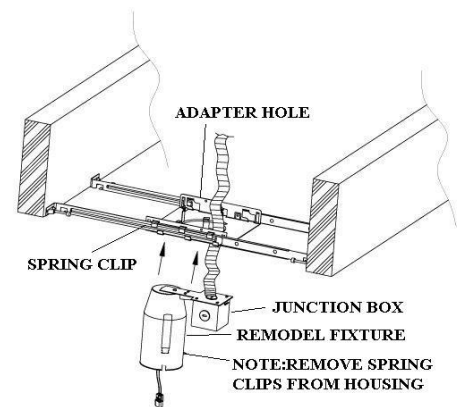

Figure 6
4. REMOVE the (3) SPRING CLIPS from the REMODEL FIXTURE and discard.
5. Tilt Fixture junction box up through hole and position adapter spring clips with alignment grooves and rectangular openings on REMODEL CAN HOUSING. Push up for spring clips to securely snap in and lock in place. (Figure 6)